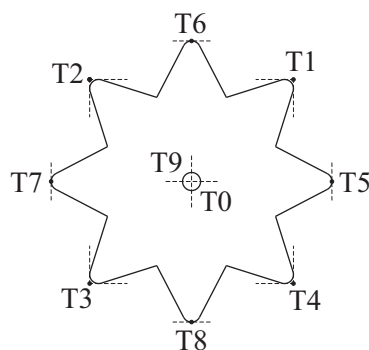

Figure 3-44
Figures 3-44 and 3-45 detail the necessary information to select the proper setting for the Tool Tip Orientation (T), in the offset register, for a rear turret lathe.
In Figures 3-44 and 3-45, the tool tip is represented and the contact point is identified. The drawing should help with the selection of the appropriate Tool Tip Orientation, (T) based on the direction the contact point is pointing. In Figure 3-45, the same concept is superimposed onto the actual tool nose and the arrows indicate the contact point and direction. Thus, the selection of the Tool Tip Orientation number is determined by the direction the tool nose is pointing. Use number 0 or 9 for programming the center of the tool nose.